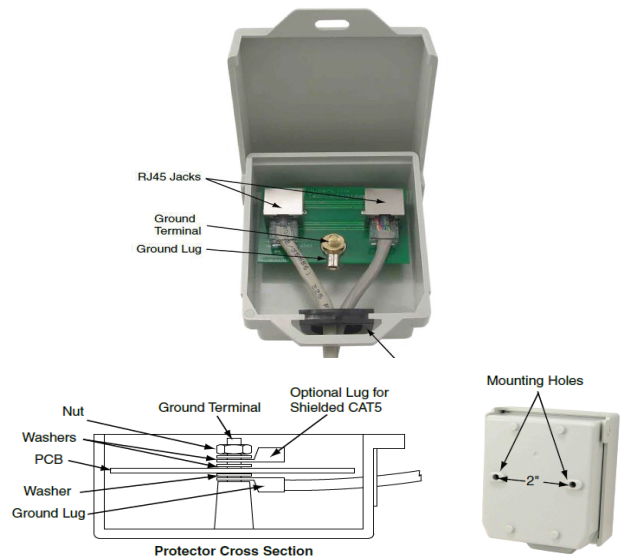

Fig. 10
- If the RT7000 is mounted outside on an exterior wall, a lightning arrester must be used, see Fig. 10. Contact HME if one or more are required.